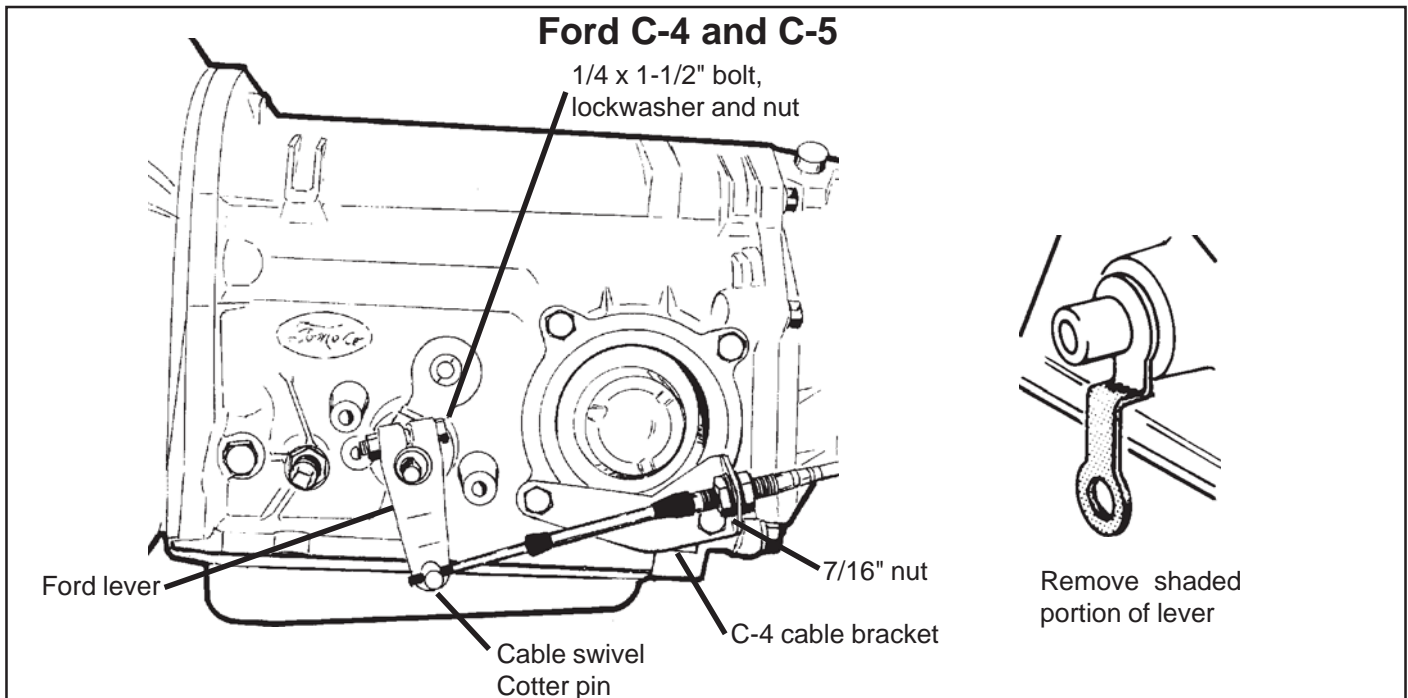
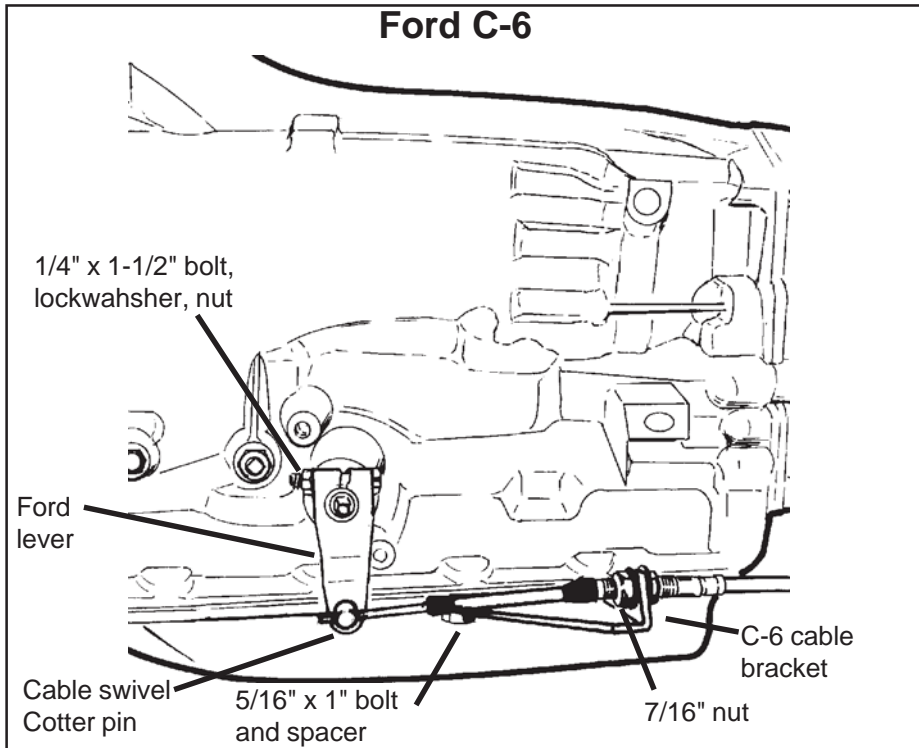

Figure 5
Figure 6
STEP 17. Install the **B&M** selector lever (See Figure 5 or 6). **Note:** The **B&M** lever must point downward for proper operation. If the stock shift lever on your transmission points down, you will have to remove the lower part of the stock arm by cutting it off to clear the **B&M** lever (See Figure 6). Install the **B&M** selector lever onto the shift shaft of the transmission. Align the selector lever so when it points straight down it travels equal arcs in both directions from the center, then tighten the 1/4"-20 x 1 1/2" pinch bolt and nut. The lever should travel smoothly from front to back with a positive click in each gear position. Make sure the O-ring is in position on the downshift shaft and install the downshift lever in position on the shaft. Install the lockwasher and nut and tighten securely. The downshift lever must operate smoothly. Reconnect the downshift linkage.
C-4, C-5: Remove the two lower bolts from the rear servo cover. Install the cable bracket in position (See Figure 5). Install the two servo cover bolts as removed and tighten 12-13 lbs.ft. Do not overtighten as this can distort the servo cover.
C-6: Remove the two transmission oil pan bolts from the left rear corner of the oil pan. Install the cable bracket in position, (See Figure 6), with two spacers between the pan and the bracket. (If your transmission is equipped with a cast aluminum oil pan, these spacers can be omitted.) Install the two 5/16-18 x 1.00" bolts supplied and tighten to 12-13 lbs.ft. Do not overtighten as this can damage the pan gasket.